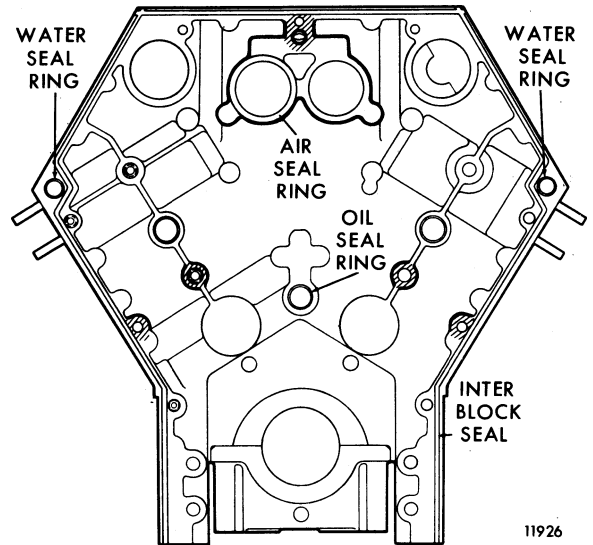

Fig. 13 - Locations For Sealant Application
5. Apply a thin coat of spray adhesive around the edge of the oil gallery opening and place a new seal ring in position (Fig. 13).
6. Apply a thin coat of spray adhesive around the edge of the exhaust port coolant holes (Fig. 13) and place a new water seal ring in position in both holes.
8. Apply a thin coat of Loctite No. 515 Gasket Eliminator to the cylinder block as indicated by the shaded areas (Fig. 13). Clean any excess gasket eliminator from the cylinder block.